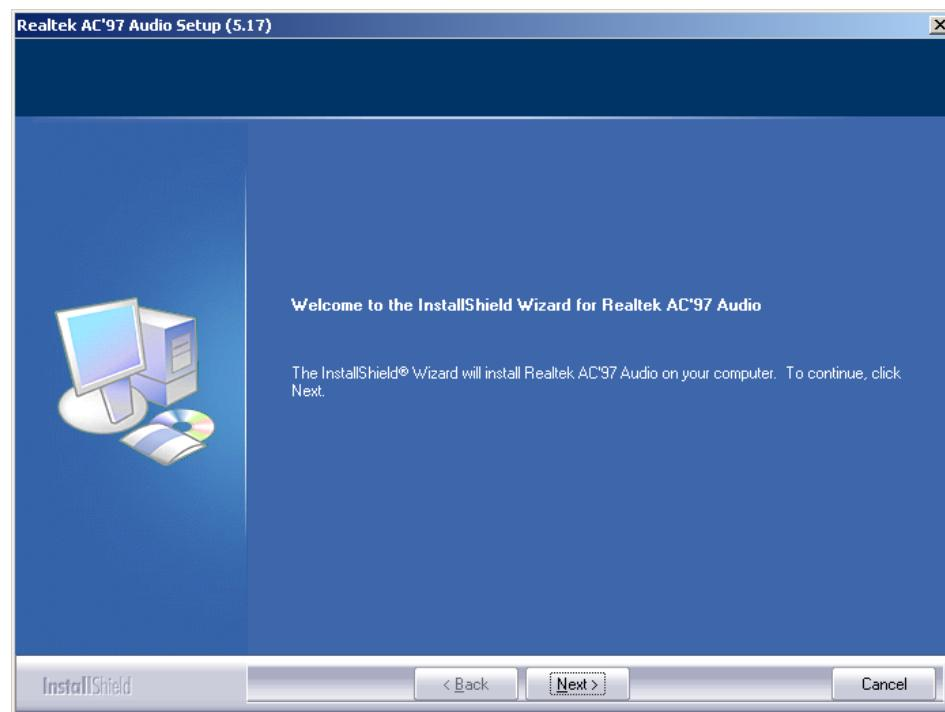

Figure 7-9: Audio Driver Setup Preparation
Step 8: The RealTek Audio Setup welcome screen appears. (See **Figure 7-9**) To continue the installation, click **NEXT**.